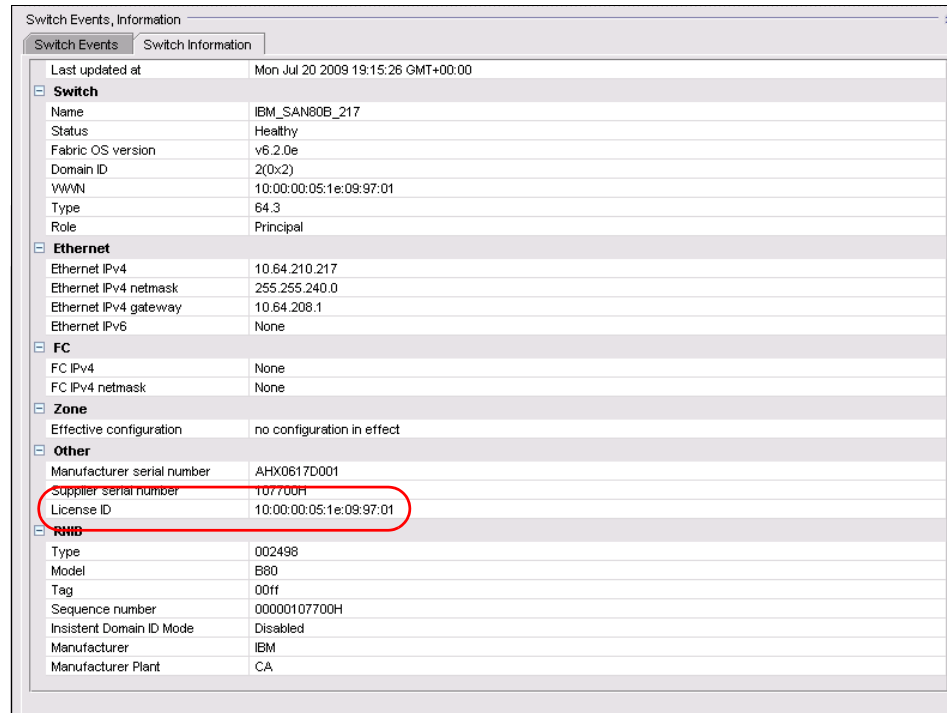

Figure 8-79 License ID field
- In the Switch Information panel on main Web Tools window as shown in Figure 8-79.